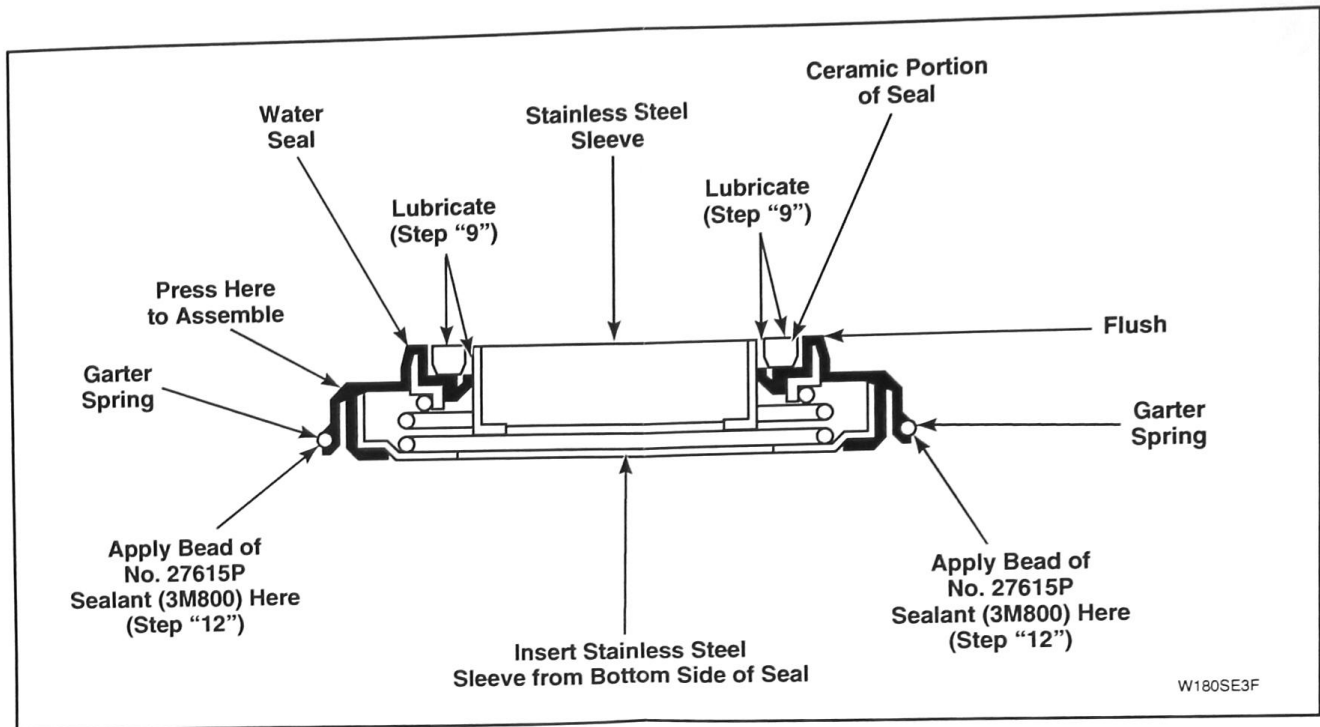

Figure 3
9. Apply a light film of nonstaining petroleum jelly (such as Vaseline®) to ceramic portion of water seal and to outer surface of stainless steel sleeve. Refer to *Figure 3*.
10. Insert stainless steel sleeve into water seal from bottom of water seal until stainless steel sleeve is flush with ceramic portion of water seal. Refer to *Figure 3*.
12. Carefully apply a small amount of 27615P Sealant (available from parts distributor) around outer edge of water seal and tub (area located just below garter spring). Refer to *Figure 3*.